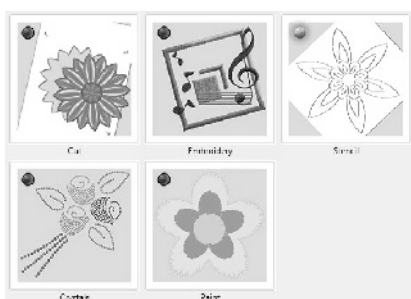

Fig. 6
2. Place a bullet in the Stencil technique option (Fig.6). Remove the bullets from all other techniques and click <OK>.